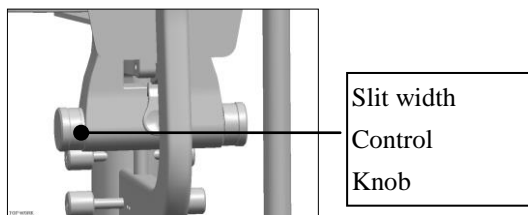

Fig3.4.1
1. Change the brightness of the slit image: Rotate the slit width control knob (see Figure 2.3.1) to change the slit width from 0mm to 12mm (when the width is adjusted to 14mm, the slit becomes circular), the knob has a scale to indicate roughly the width value (see Figure 3.4.1).